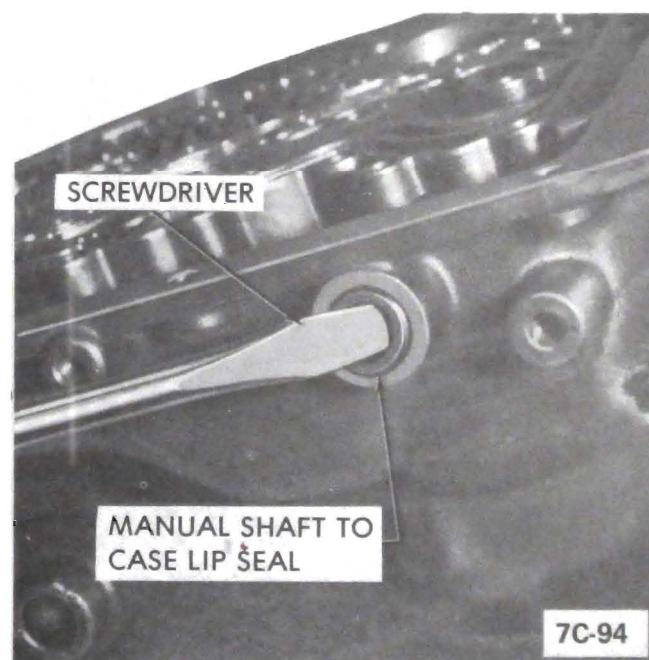

Figure 7C-48
2. Remove manual shaft to case retainer with screwdriver. See Figure 7C-47.